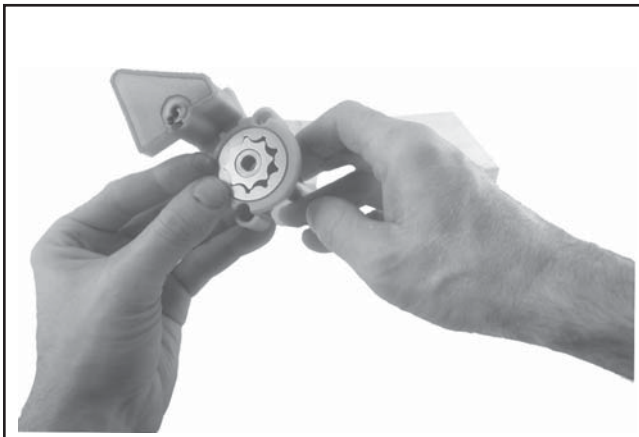

Figure 10-7. Gerotor Gears Installed in Oil Pump.
3. Lightly grease the gerotor gears and install into the oil pump, with the short drive pin fitted into the slot of the inner gear. See Figure 10-7.